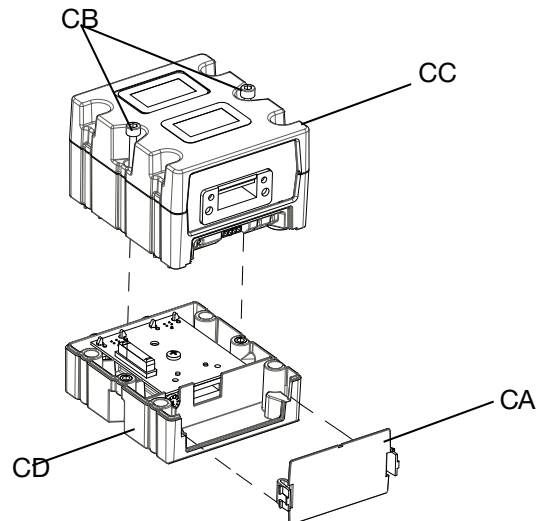

Fig. 38: Disassembling the CGM
5. Remove the access cover from the CGM (CA). Loosen the two screws (CB) and remove the CGM (CC) from the base (CD) as shown in Fig. 38.